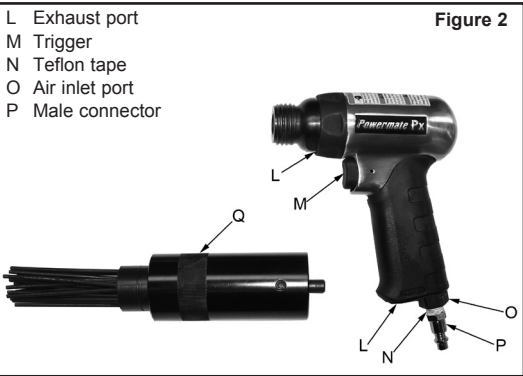

Figure 2
- Install a 1/4" NPT male connector into the air inlet port on the tool (see Figure 2). **Note: Use Teflon® Tape on all threaded connections.**